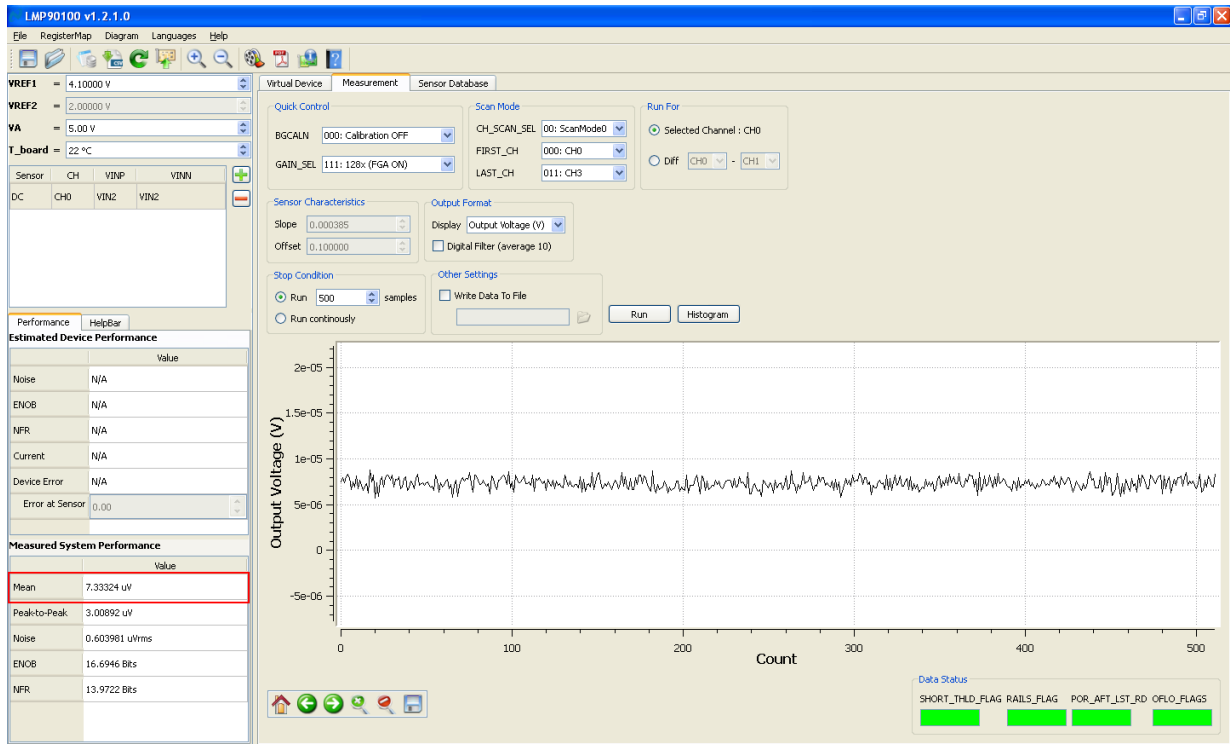

Figure 11 - Results for Shorted Input Test without Calibration
2. Under the **“Output Format”** field, select Display **“Output Voltage (V)”**
4. Click on the **“Run”** button to view the output voltage results. A reading in the hundreds of μV should be plotted similar to Figure 11.